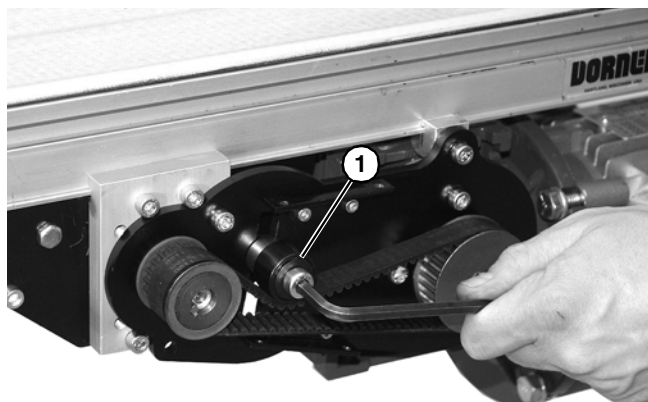

Figure 14
2. Loosen tensioner (**Figure 14, item 1**).
2. Loosen tensioner (Figure 14, item 1).